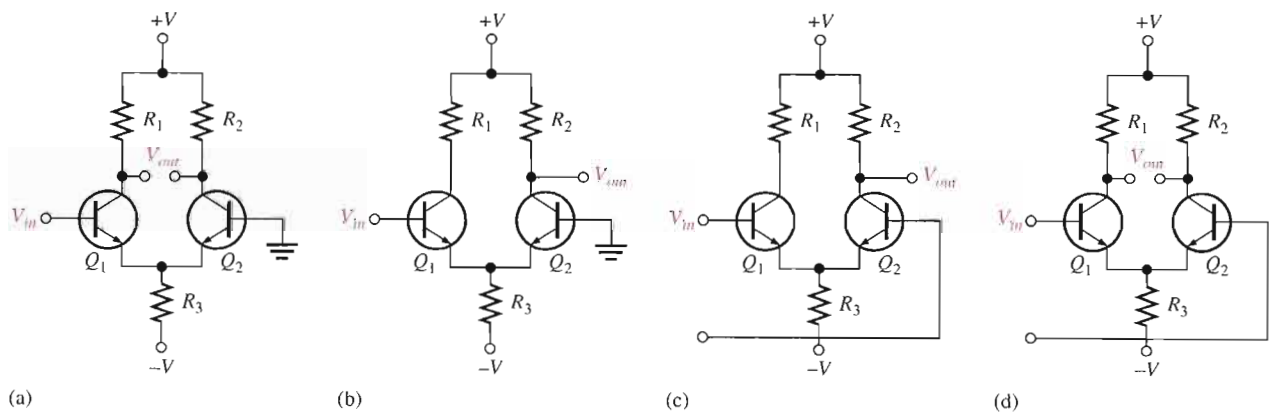

FIGURE 6-61
37. Identify the type of input and output configuration for each basic differential amplifier in Figure 6-61.